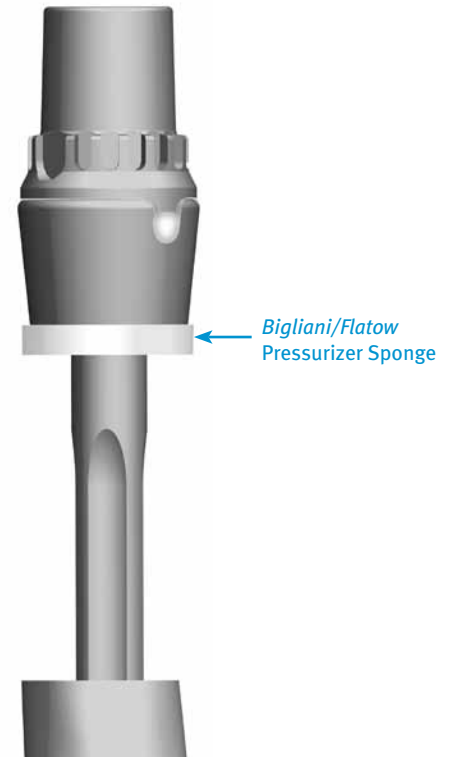

Fig. 24
- If desired, use a plastic cement restrictor for manual cement pressurization. A *Bigliani/Flatow*[®] Pressurizer Sponge may be used to prevent cement from extruding out of the tibial canal and onto the face of the *Trabecular Metal* Collar that contacts the planed surface of the tibial cortex (Fig. 24). If using this technique, slide the sponge onto the Stem until it contacts the base of the Collar.